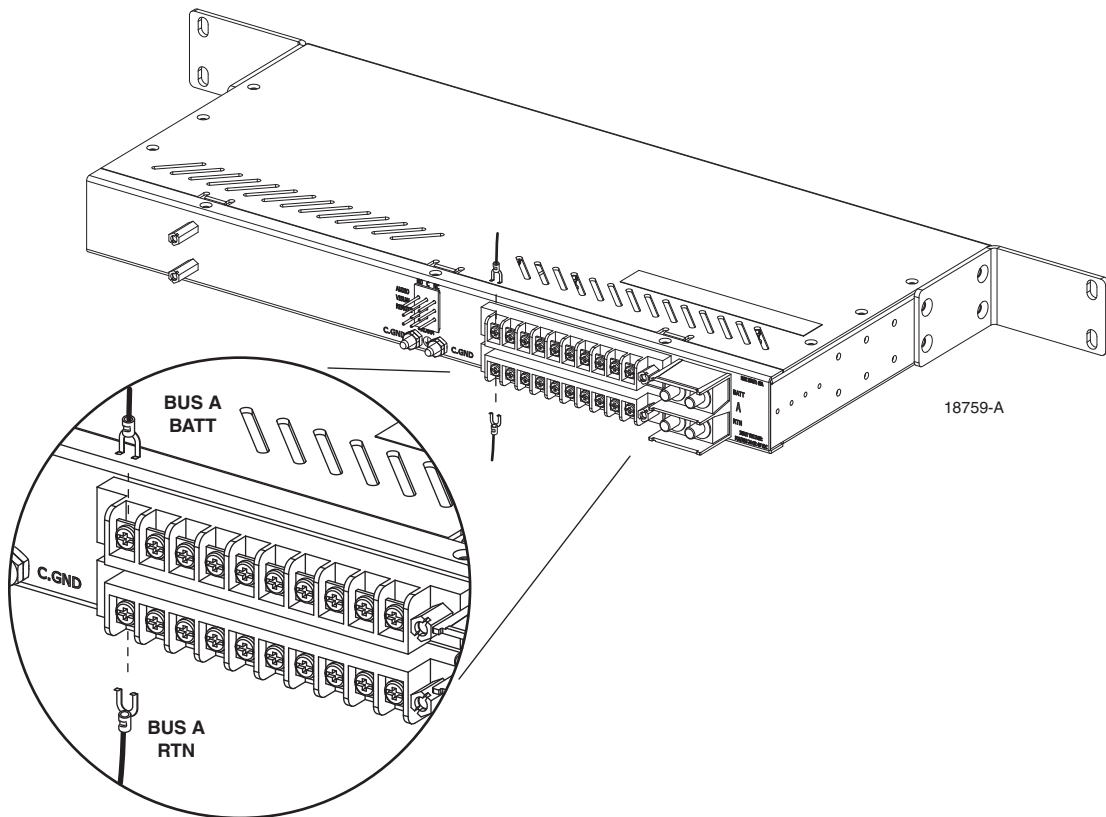

Figure 23. Screw-Down Barrier Strip Power Output
- Set-screw barrel terminal strip, shown in Figure 23
The screw-down barrier terminal strip, shown in Figure 23, accepts #12 to 22 AWG wire. In selecting wire size, follow local code, referring to the ampacity guidelines provided in Appendix A of this manual. Equip wire leads with spade or crimp ring connectors that have a maximum width of 0.20 inches (0.51 cm). The terminals also accommodate copper wire without lugs (with insulation stripped back). Use whichever method is dictated by local practice. For torque specifications, refer to the installation drawing provided with the fuse panel.